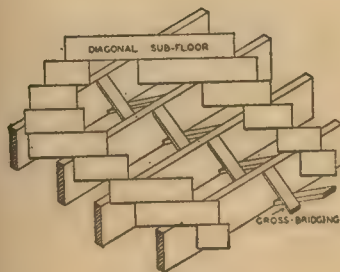

FIGURE 2
**JOIST BRIDGING:**—All floor joists shall have cross bridging of 1 x 4's or 2 x 2's placed at least every 8 feet in the length of the joist. Bridging shall be beveled and shall be securely nailed at top and bottom with two nails at each end. The bottom shall not be nailed until after the sub-flooring has been laid. (*See Figure 2.*)